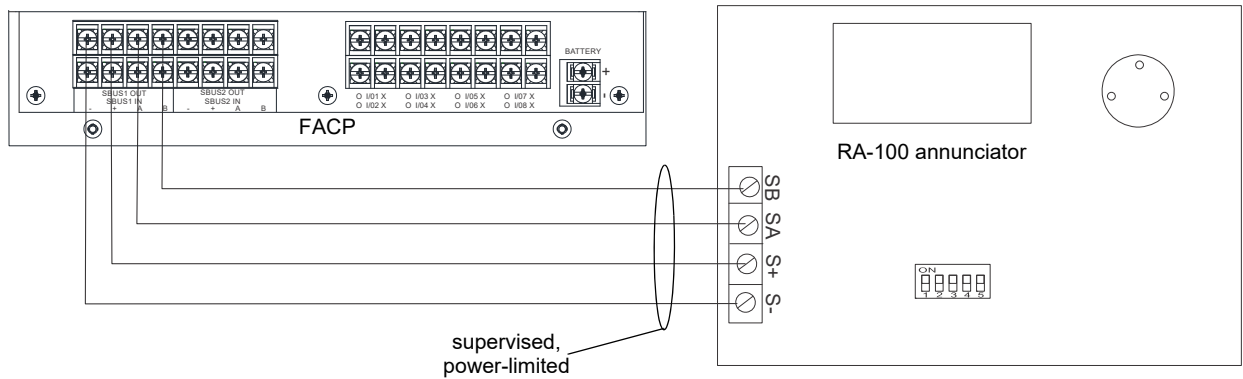

Figure 4.17 RA-100 Connection to the Panel
7. Wire the annunciator board to the main control panel. Refer to Figure 4.17.
7. Run wires to the control panel. Refer to Figure 4.17.